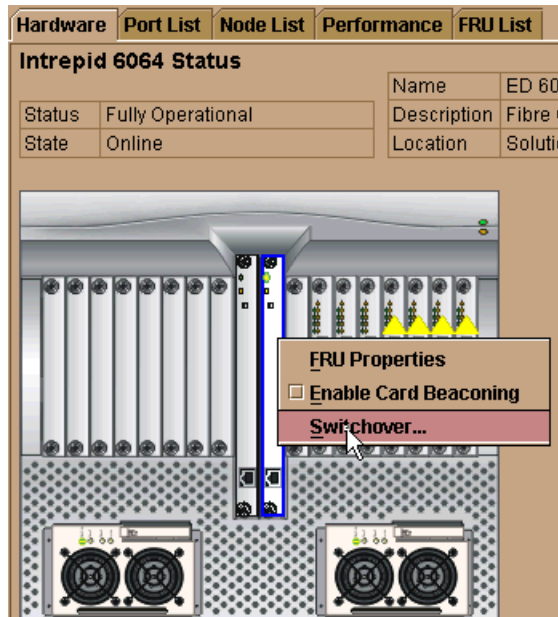

Figure 4-130 CTP Swichover button
- d. Right-click the CTP 0 in order to show the **Switchover...** button as shown in Figure 4-130.